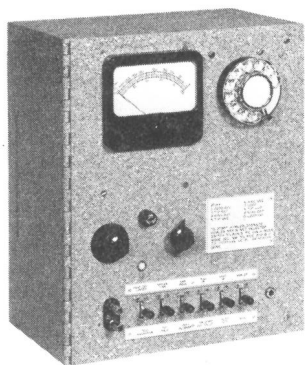

FIGURE 1. Wire Chief's Test Set, Type B
1.01 This practice provides instructions on the operation of and test procedures for the S-C Wire Chief's Test Set, Type B. See Figure 1.